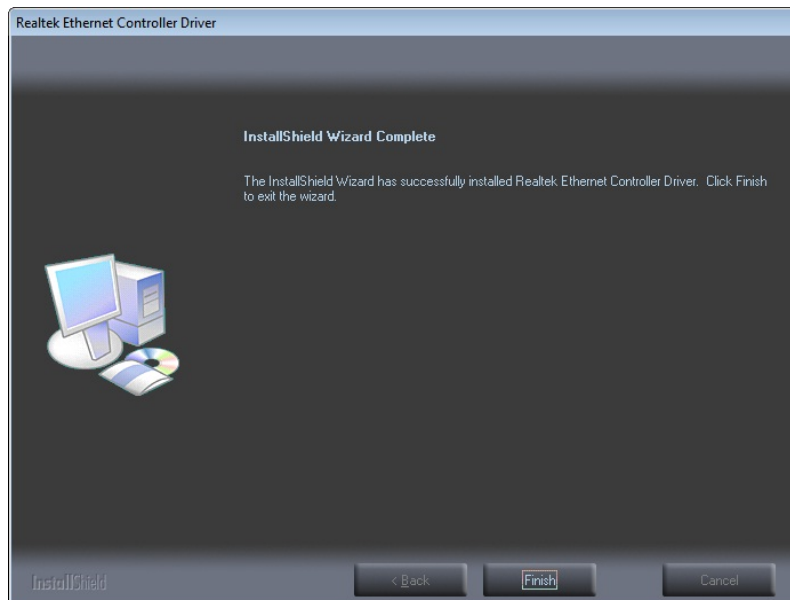

Figure 6-14: LAN Driver Installation Complete
Step 10: When the driver installation is complete, the screen in **Figure 6-14** appears.